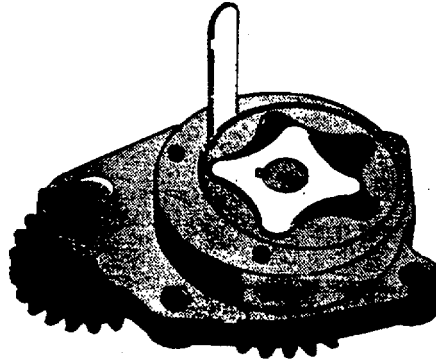

FIGURE 3-66. Body Bore Clearance Measurement
- i. Measure the clearance of the gerator planetary to the body bore (FIGURE 3-66). Maximum: 0.015 inch (0.381 mm).